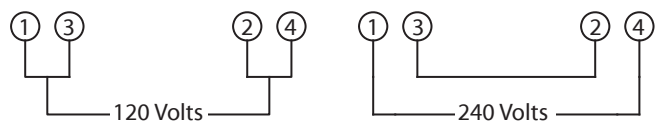

Figure 4 – Wiring Schematic for Motor
Refer to Figure 4
- To operate drill press at 240 volts, rewire motor as shown in Figure 4 and replace line cord plug with a 240 volt, 15 A, 3-prong plug. If motor label has a different wiring configuration, use the motor label diagram to rewire motor.